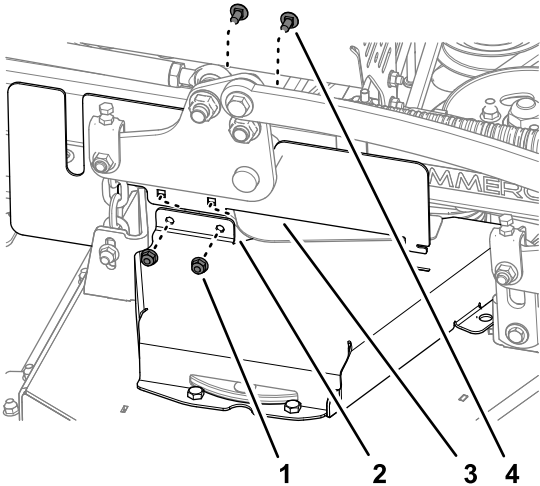

Figure 41
- 2. Assemble the right side CE cover to the right belt cover (Figure 41) with the 2 carriage bolts and 2 lock nuts that you removed in Removing the Left Belt Cover (page 28).